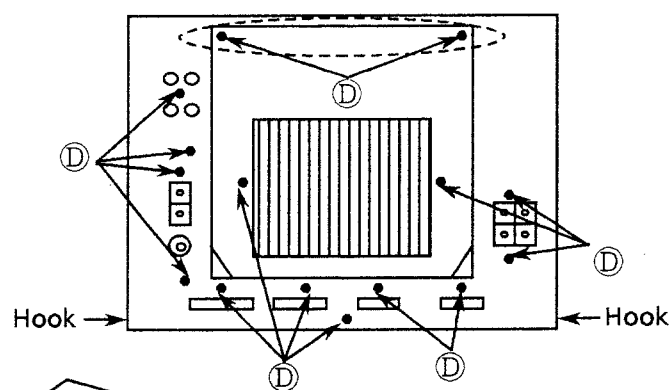

Figure 3 Rear view
2. Remove the 2 screws ③ in the broken line to remove the heat sink cover (Figure 3).
3. Remove the other screws ③.